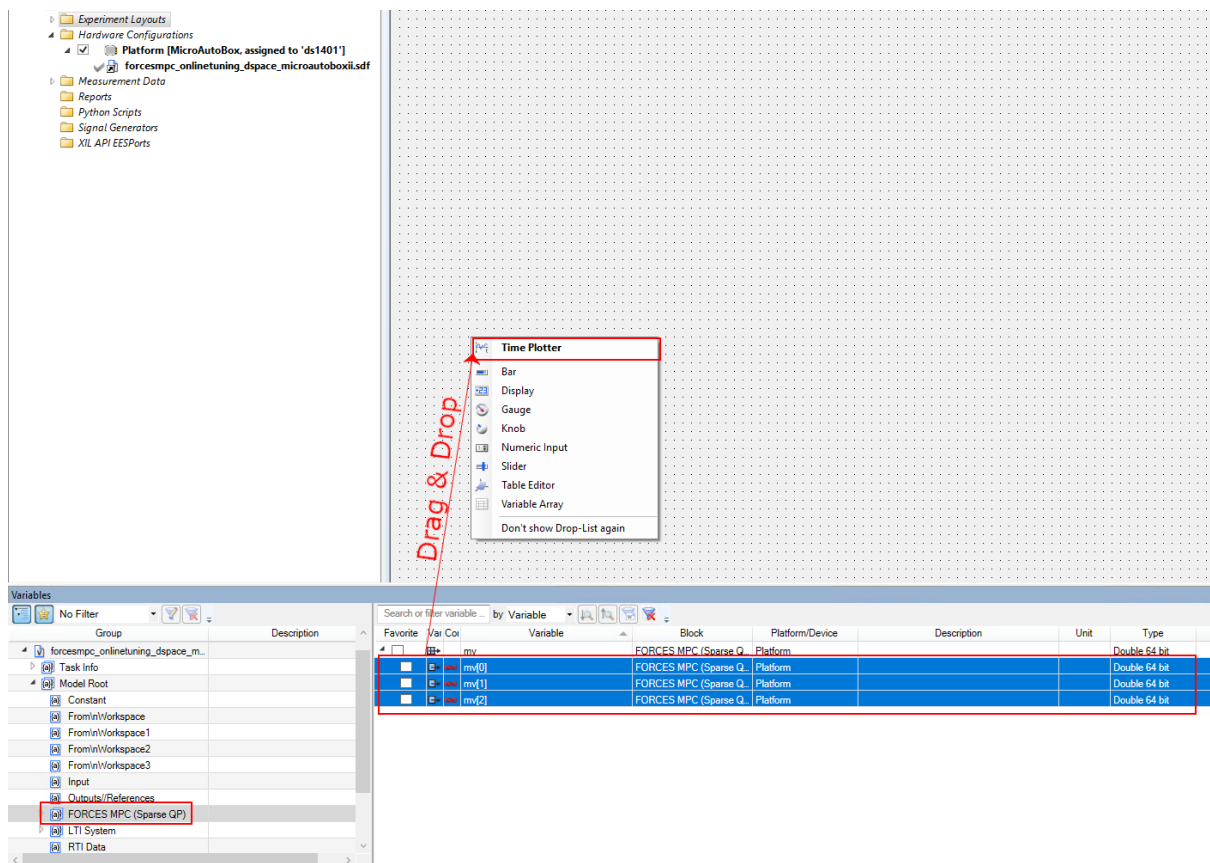

Figure 6.16: Add the variables as plots
- 12) Select **FORCES MPC (Sparse QP)** and Drag & Drop all the output variables together to the Layout. In the opened menu select **Time Plotter** (see Figure 6.16).